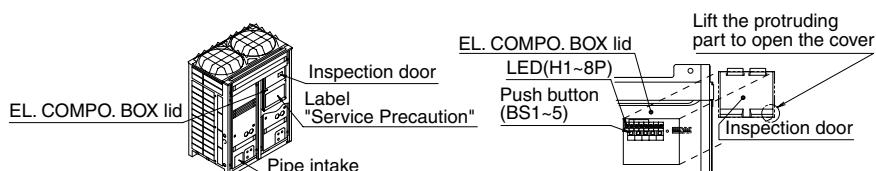
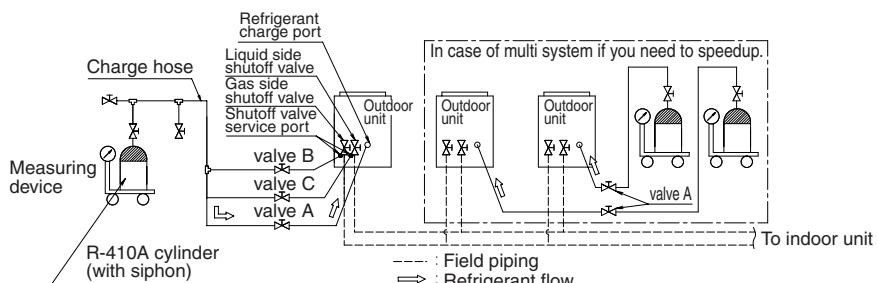

fig 32
fig 33
4. Perform the refrigerant charging operation following [Refrigerant charging operation procedure] as shown in page 153, and charge the remaining refrigerant of the “additional charging amount”. For performing the refrigerant charging operation the push button on the PC-board (A1P) of outdoor unit (Incase of multi system master unit) are use. (See the figure 32) In addition, the refrigerant are charged from the refrigerant charge port via the valve A. (See the figure 33)
If you need to speedup in case of multi system, connect the refrigerant cylinders to each outdoor unit as shown in the figure 33.
STEP1 Open the liquid and gas side shutoff valves (The valve A~C must be closed. The valve A~C means the valves in the figure 33.)